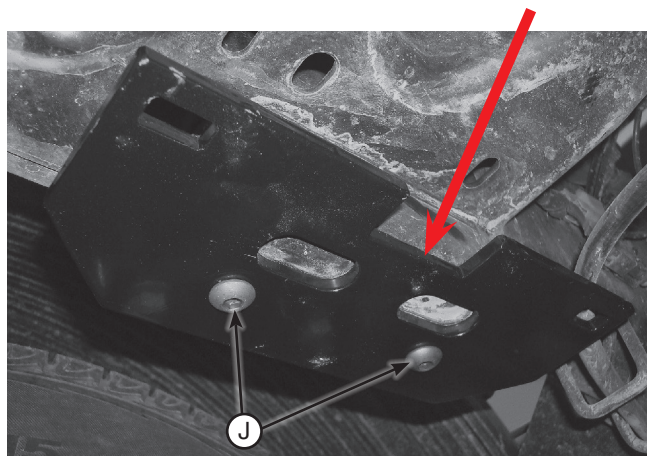

Fig. 6
3. Install the upper frame brackets (B) onto both sides of the frame with the M10-1.5 x 35 button head cap screws (J) making sure the cutout in the brackets face inboard, away from the tire (Fig. 6). Torque the hardware to 37 lb.-ft. (50Nm).